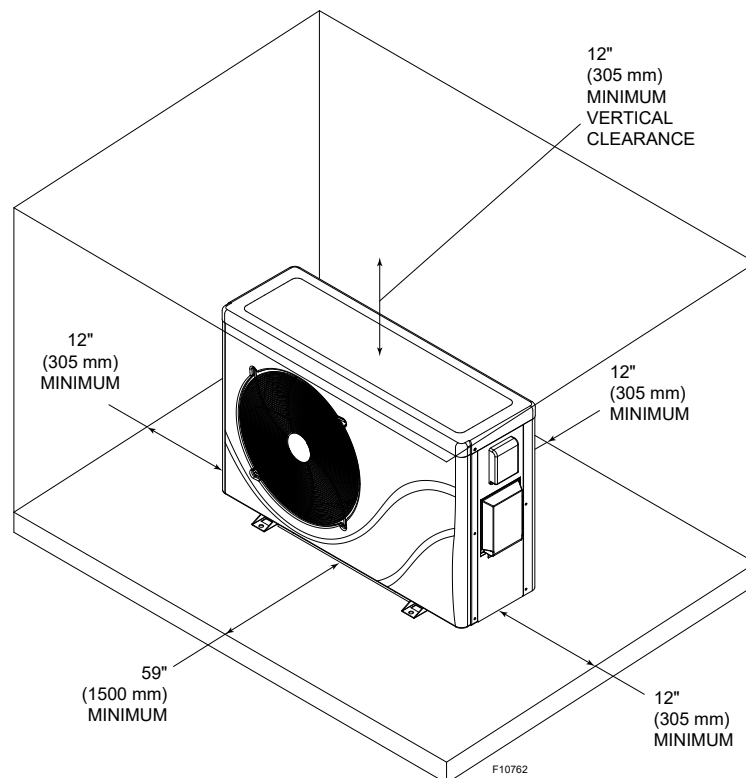

Figure 2. Ventilation Clearances
2. Please don't stack anything near the heat pump that can block air flow to the inlet or exhaust area, or the efficiency of the heater will be reduced and/or stopped. For unit clearance information, see **Figure 2**.
For unrestricted air intake and service access, position each side of the unit according to **Figure 2**.